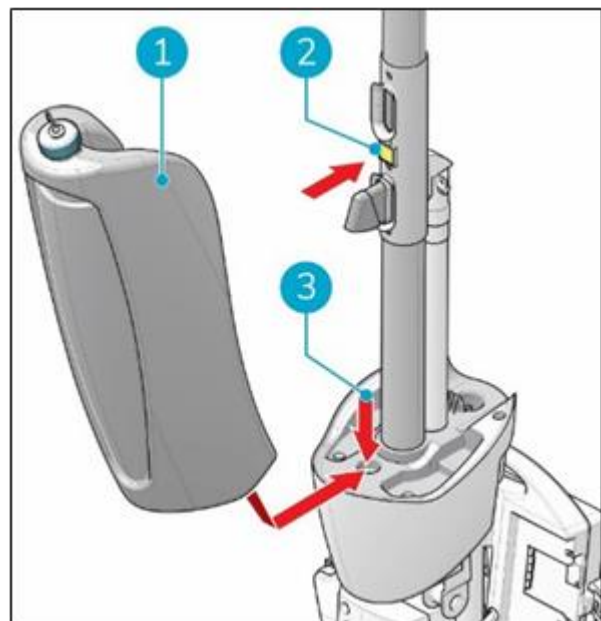

Figure 11
1. Put the bottom of the recovery tank (Figure 11, pos 1 and pos 3) on the front of the i-mop® XL Plus.
2. Push the top of the tank into place until you hear a "click" sound, the magnet (Figure 11, pos 2) will lock the recovery tank into place.